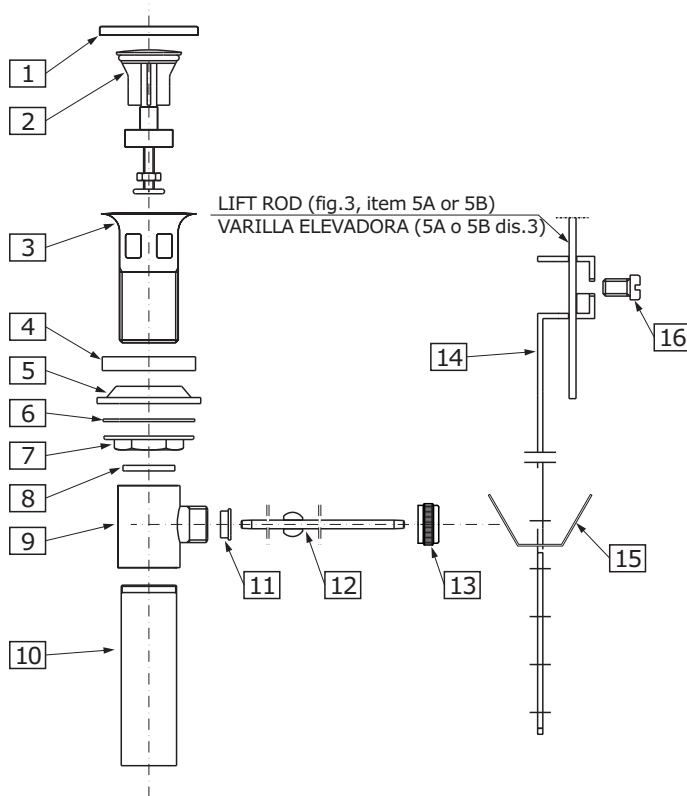

FIG. 5
See fig. 5
- ➔ Dismantle the drain assembly to the parts shown on **fig. 5**.
- ➔ Insert collar gasket (4) and drain collar (3) into drain hole of a lavatory. From underneath the lavatory slip under-bowl gasket (5) into drain collar (3), washer (6) and flanged nut (7).
- ➔ Position under-bowl gasket (5) correctly under the lavatory and screw flanged nut (7) firmly but do not overtighten.
- ➔ Make sure washer (8) is inside drain body (9) and screw drain body (9) onto drain collar (3) hand tighten only.